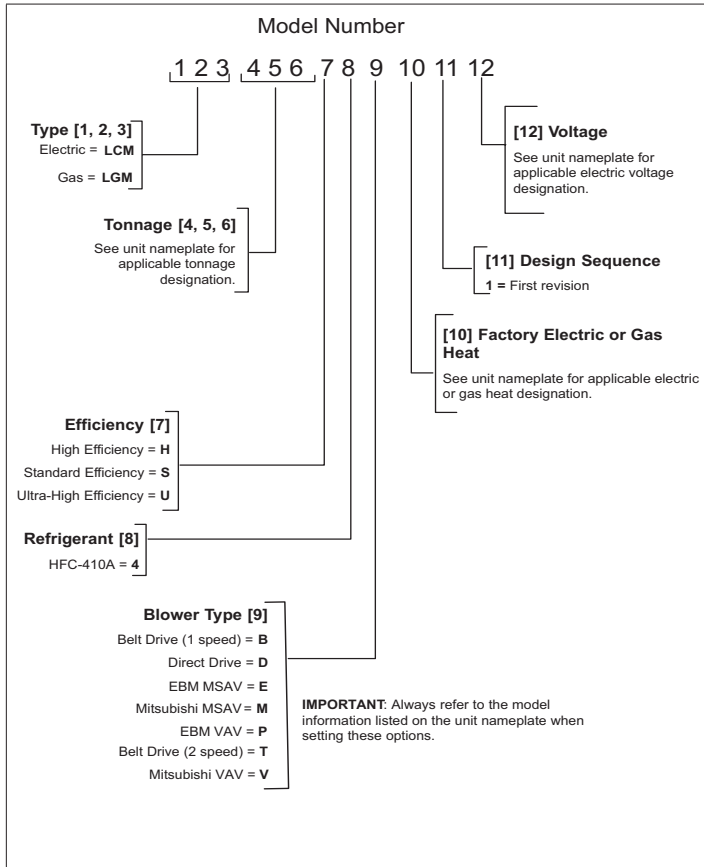

Figure 6. Model Number
- Model Number (see “Figure 6. Model Number”) and serial number. Model, serial and catalog numbers are located on the RTU nameplate.